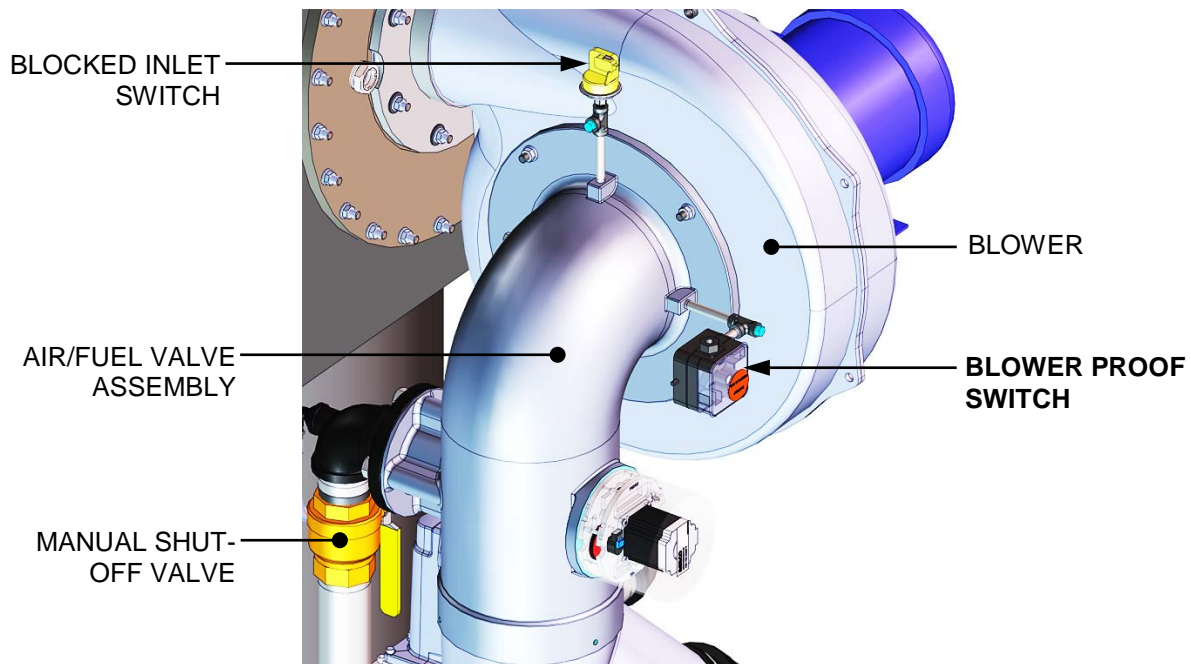

Figure 3-5: Blower Proof Switch
- Next, the Blower Proof switch on the Air/Fuel Valve (Figure 3-5) closes. The display will show **PURGING** and indicate the elapsed time of the purge cycle in seconds.